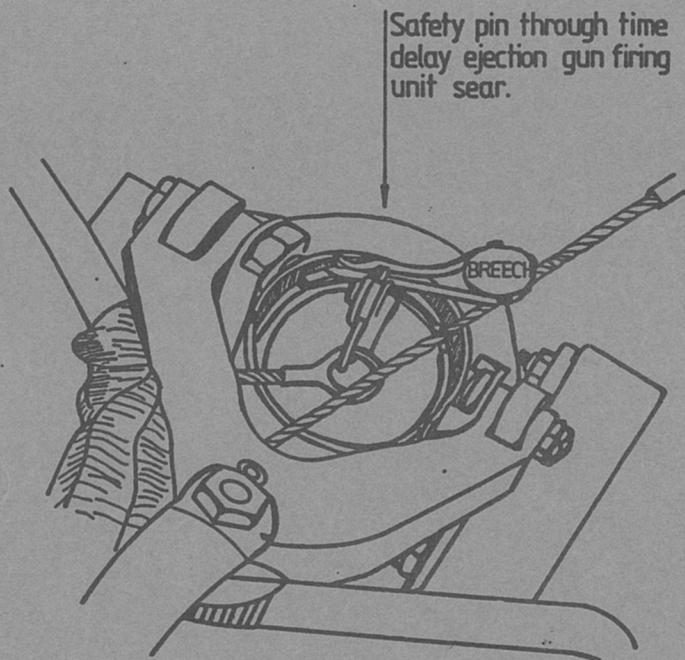

FIG 4
- (4) BREECH SAFETY PIN THROUGH BREECH TIME DELAY EJECTION GUN FIRING UNIT SEAR. (FIG 4)